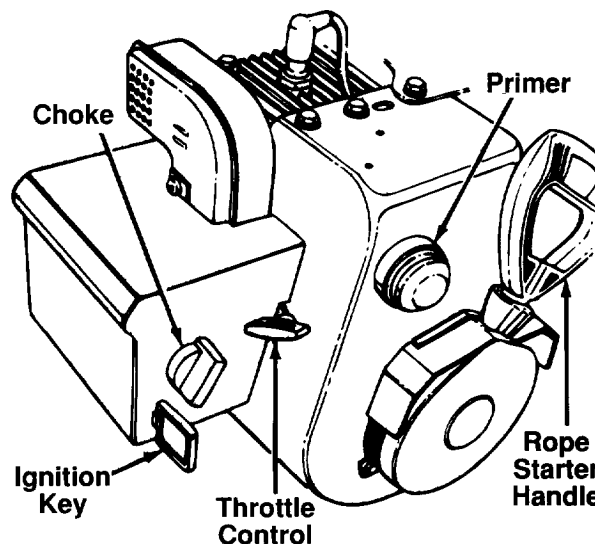

FIGURE 12.—Model 610E Shown
### THROTTLE CONTROL (See figure 12)
### SAFETY IGNITION SWITCH (See figure 12)
3. Move throttle control up to FAST position. Insert ignition key into slot. See figure 12. Be certain it snaps into place. **Do not** turn key.
6. Push primer button two or three times. See figure 12.
7. **Recoil Start:** Grasp starter handle (see figure 12) and pull rope out slowly, until it pulls slightly harder. Let rope rewind slowly. Pull starter handle rapidly. Do not allow handle to snap back. Allow it to rewind slowly while keeping a firm hold on the starter handle.